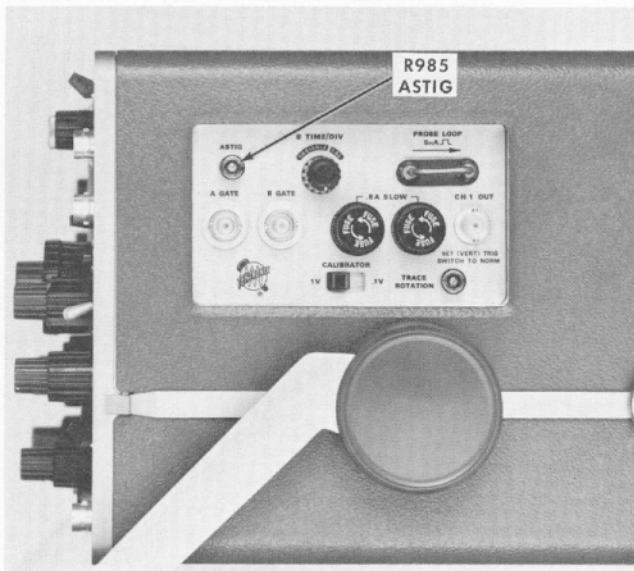
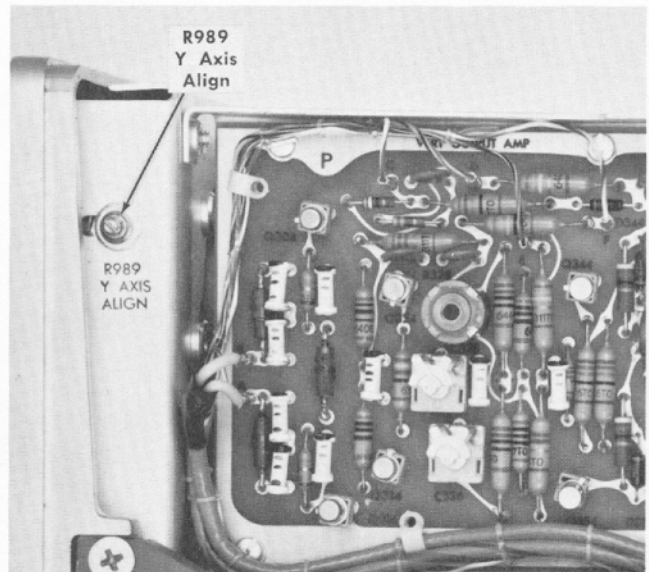
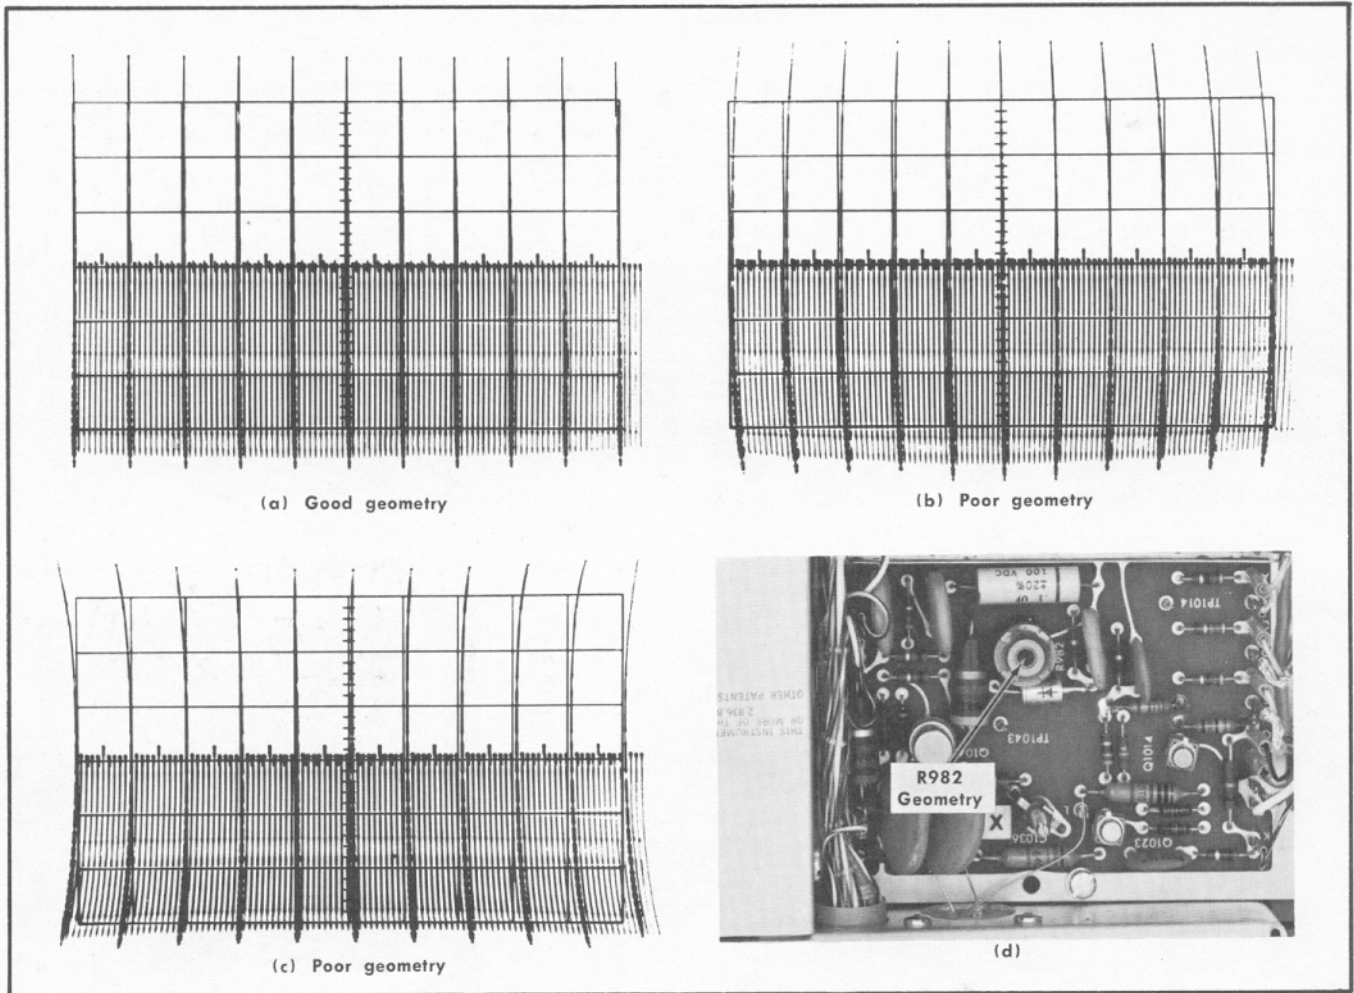

Fig. 6-15. Location of Astigmatism adjustment (side panel).
Fig. 6-16. Location of Y Axis Alignment adjustment (left side).
Fig. 6-17. (a) Typical crt display showing good geometry; (b) and (c) Poor geometry; (d) Location of Geometry adjustment (Z Axis Amplifier board).
- g. Adjust—FOCUS control and ASTIG adjustment, R985 (see Fig. 6-15), for best definition of markers.
10. Adjust Y Axis Alignment ①
- c. Adjust—Y Axis Align adjustment, R989 (see Fig. 6-16), to align the markers with the centerline.
11. Adjust Crt Geometry ①
- b. Check—Geometry at left and right edges of the graticule. Fig. 6-17 shows typical display of good geometry as well as examples of poor geometry.